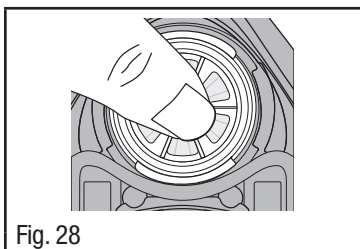

Fig. 28
5. Using your thumb, press down on the center of the speaking diaphragm, pushing it fully into the opening, to ensure it is evenly and fully seated (Fig. 28).